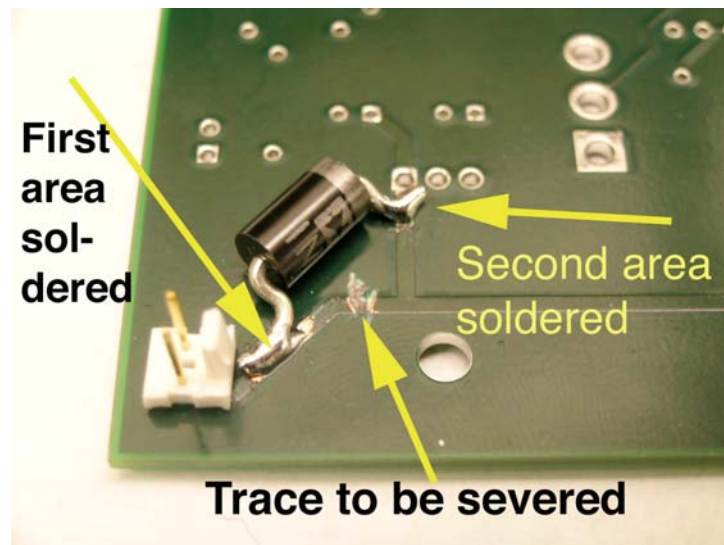

Figure 38: Diode soldered onto the back of the circuit board.
1. Take out the circuit board and locate the power bus (the big trace on the backside). See Figure 38.
3. Take a scalpel and cut the trace. You must leave the area where it branches off alone. Check the location in the Figure 38.